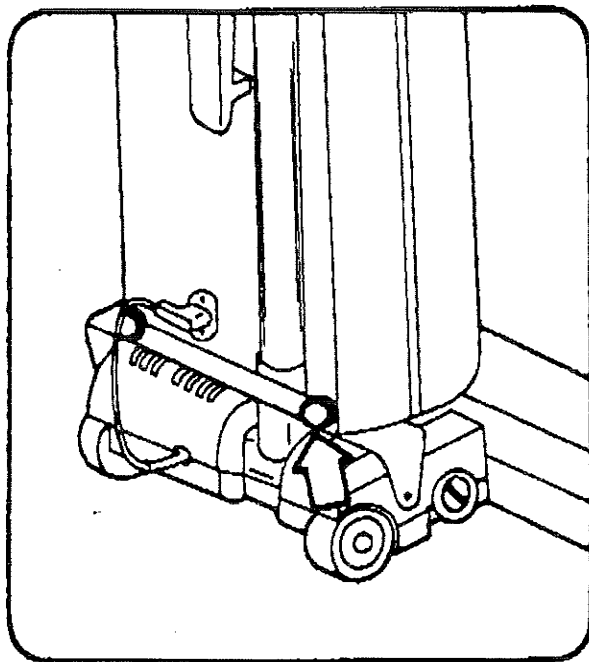

Fig. 2.2
2.2. Attach the power brush assembly to the vacuum tank assembly by first removing the two (2) thumb nuts from the rear of the vac tank. Slide the tank on to the metal bracket, making sure that the hooks on the bottom of the tank engage the bracket. Install and tighten the thumb nuts. Plug the brush motor powercord into the receptical on the vac housing. See Fig. 2.2